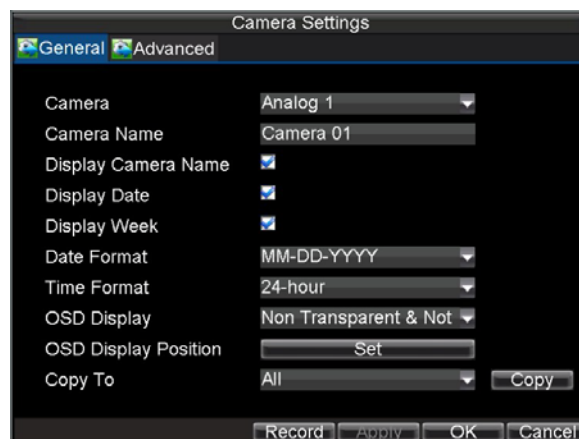

Figure 1. OSD Settings Menu
1. Click Menu > Settings > Camera to enter the Camera Settings menu, shown in Figure 1.
3. Configure desired OSD settings, as shown in Figure1.
2. Click the **Advanced** tab to enter the Advanced Camera Settings menu, as shown in Figure1. Select channel for image settings in **Camera**.